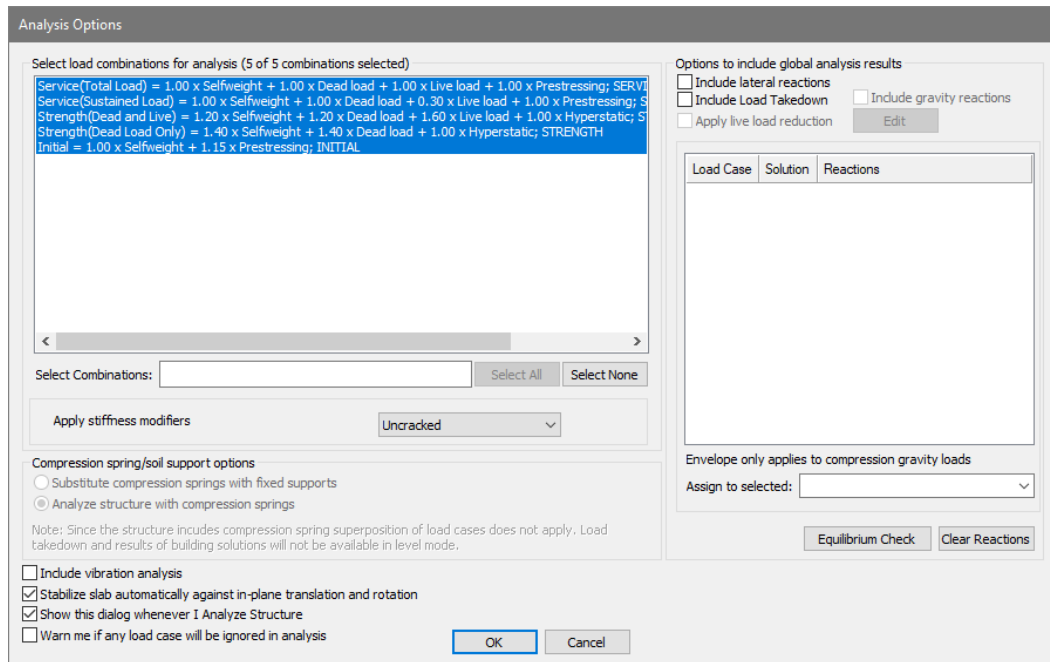

Figure 8-71
- In the Analysis Options window select all load combinations as well as the options as shown in **FIGURE 8-71**.